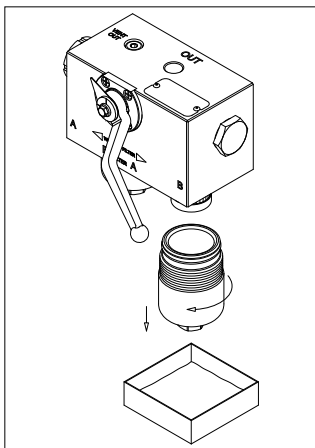

fig. 8
- (Fig. 8) Unscrew the filter bowl while keeping the collection vessel